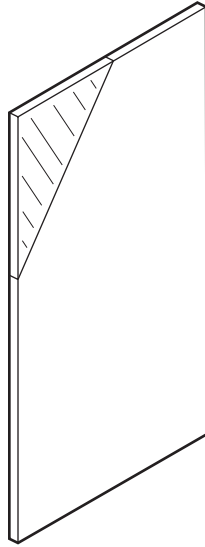

Fig. 6
- (e) Fig. 6 shows one end of the computer desk marked out, ready to be cut to shape.